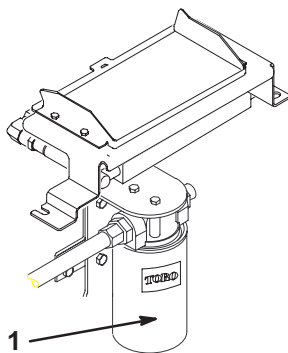

Figure 42
5. Place a drain pan under the filter (Fig. 42).
6. Remove the old filter (Fig. 42) and wipe the surface of the filter adapter gasket clean.
8. Install the replacement hydraulic filter onto the filter adapter (Fig. 42). Tighten it clockwise until the rubber gasket contacts the filter adapter, then tighten the filter an additional 3/4 turn.